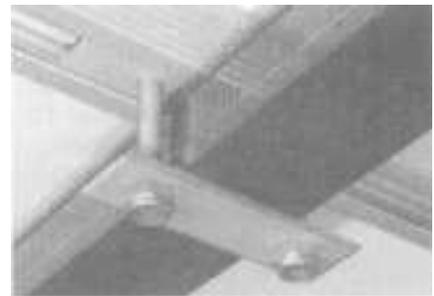

Figure 3
4. Attach the roof tent to your roof rack or roof bars in four places as per Figure 3. Use 2 bolts and 2 slide plates with the base plate to hang the bar. 1 set per corner.